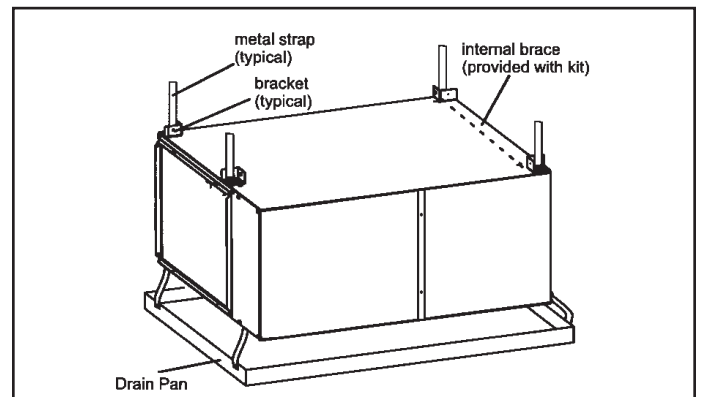
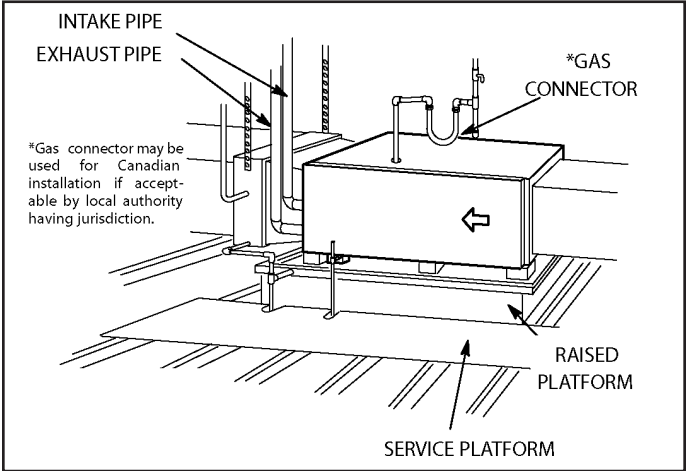

Figure 19. Typical Horizontal Application
Figure 20.
This furnace may be installed in either an attic or a crawl space. Either suspend the furnace from roof rafters or floor joists, as shown in Figure 19, or install the furnace on a platform, as shown in Figure 20. A horizontal suspension kit (51W10) may be ordered from your distributor or use equivalent.
- 2. Construct a raised wooden frame and cover frame with a plywood sheet. If unit is installed above finished space, fabricate an auxiliary drain pan to be installed under unit. Set unit in drain pan as shown in Figure 20. Leave 8 inches for service clearance below unit for condensate trap.